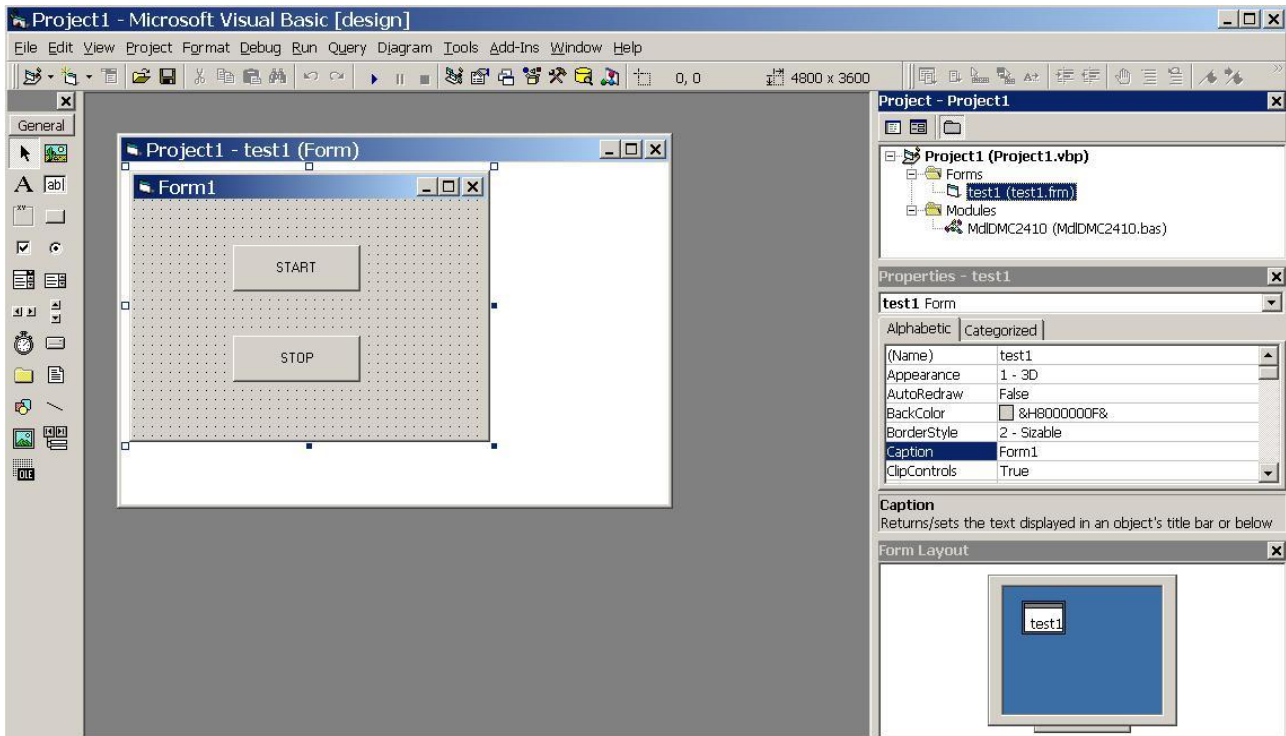

Figure 5-2 Add Module of DMC2410 into the project
- (4) Save the project into folder of E:\test1;
- (5) Copy DMC2410.bas from the folder “driver” of Leadtech DMC2410 CD to the folder “test1” ;
- (6) Click “Project”->“Add Module”->“Existing”, choose DMC2410.bas in folder “test1”, and add it into the project. See figure 5-2;